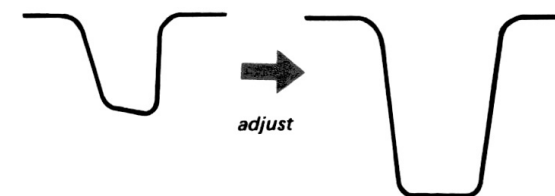

Fig. 5-17. A-m i-f response
- Turn the top core of IFT 401 to obtain a maximum and symmetrical response as shown in Fig. 5-17.